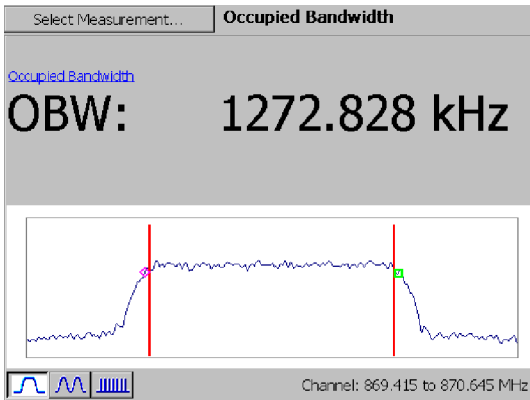

Figure 3-46: A typical Occupied Bandwidth display
3. Tap **Occupied Bandwidth**. See Figure 3-46.